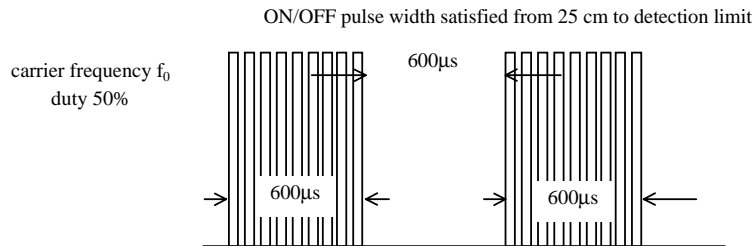
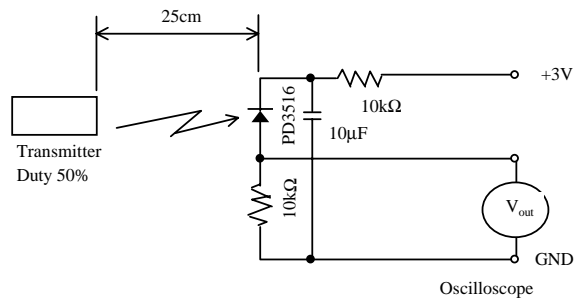

Fig 1. Burst Wave
Fig 2. Standard Transmitter Measurement circuit
- (1) Measuring placeIndoor without extreme reflection of light.
- (2) Ambient light source... Detecting surface illumination shall be 200±50Lux under ordinary hite fluoescense lamp of no high frequency lighting.
- (3) Standard transmitter ... Burst wave indicated in Fig 1. of standard transmitter shall be arranged to 50mV_{p-p} under the measuring circuit specified in Fig 2.